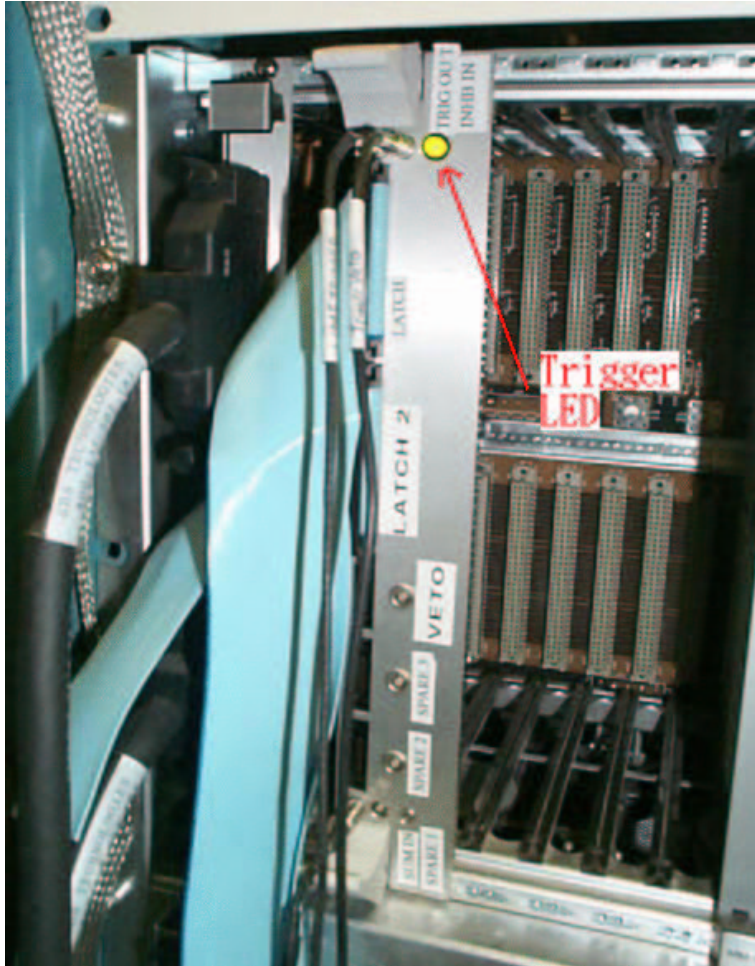
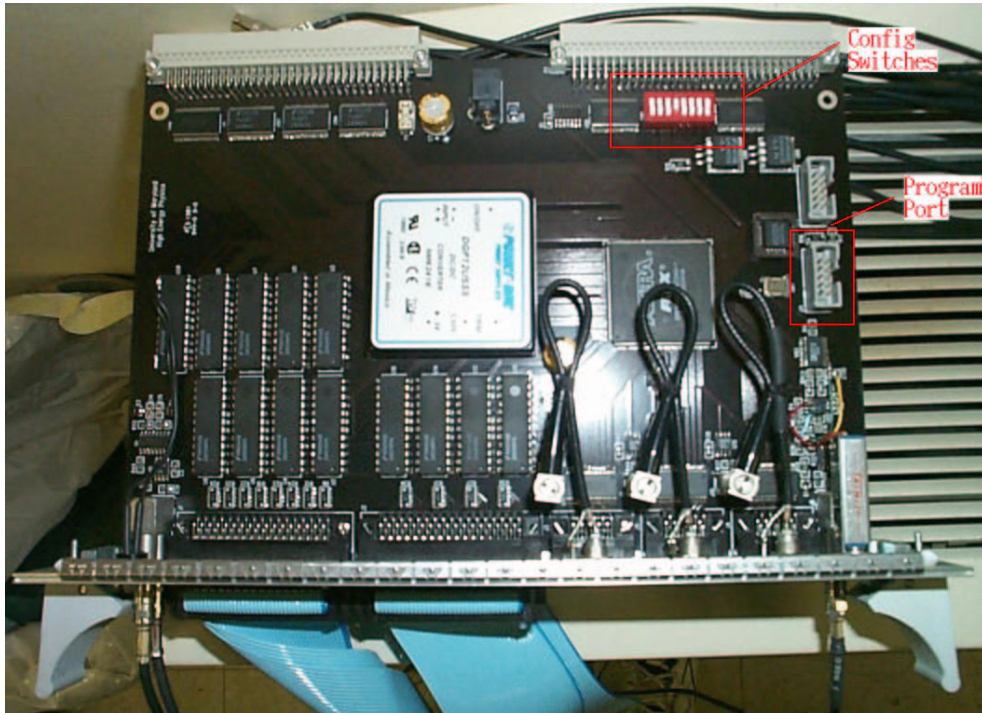

Figure 1: VME trigger card in crate. Trigger LED is on each time a detector trigger is issued.
Figure 2: VME trigger card. Shown are the set of configuration switches and the programming port to reprogram the Altera chip.
The card is installed in the VME crate near the DPM modules. This section covers installation and proper connection of the card. Also included are information about changing the VME memory address of the card and instructions for adjusting the DC offset of the card. Figure 1 shows the trigger card in the VME crate. Figure 2 shows the trigger card from a side view and shows the configuration switch bank and programming port.
The VME address is set on the switch bank (“Config Switches”) shown in Figure 2. Switches 1-4 are used to set the most significant bit of the VME address. These switches are “true” when in the “off” position.
1. Turn off the VME crate, remove the trigger card from the VME crate and attach the Byte Blaster cable to the programming port on the card shown in Figure 2. You do not need to remove the cables from the card.